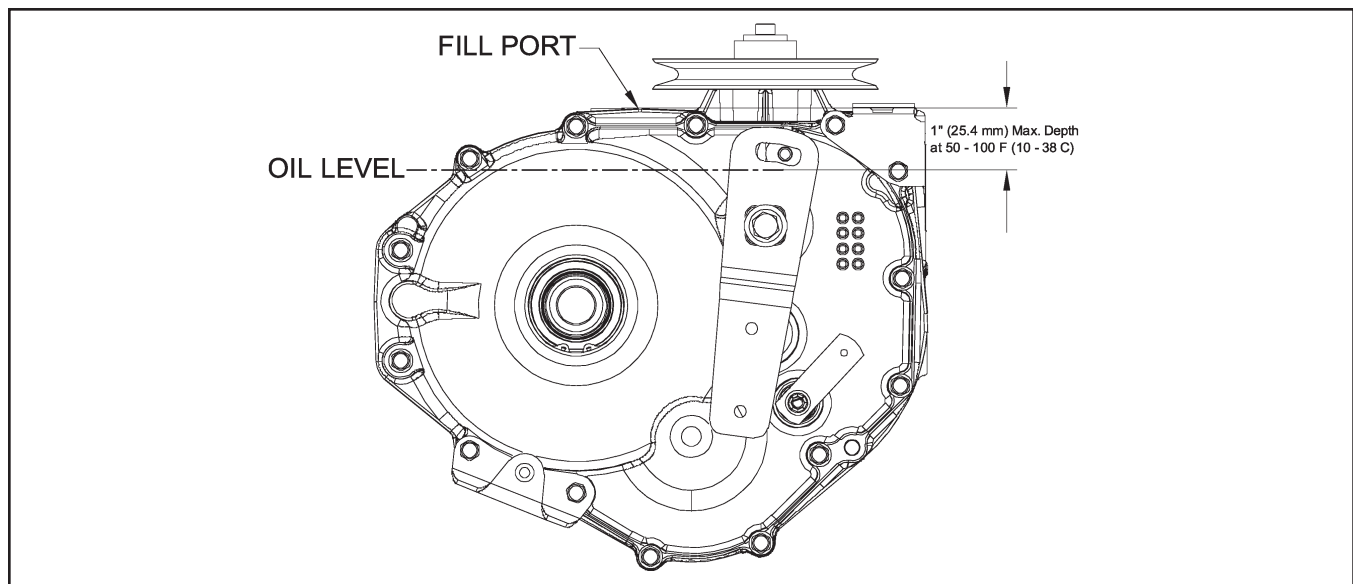

Figure 4. Fluid Level and Fill Port
2. Check oil level in accordance with Figure 4 Page 9.
Certain situations may require additional fluid to be added or even replaced. Refer to Page 4 and Figure 4 for the proper fill port location.
9. Fill the transaxle at the oil fill port according to Figure 4.
Before starting, make sure the transaxle/transmission is at the proper oil level. If it is not, fill to the specifications outlined on Page 9, Figure 4.